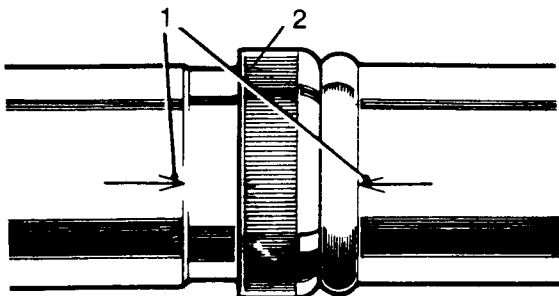

Fig H4.6
- (3) **Both shafts:** Refer to Fig H4.6. Check that the alignment marks (1) on the splined sleeve and the splined shaft are clearly visible. If necessary inscribe new alignment marks.
- (4) Unscrew the dust cap (2).
- (5) Withdraw the splined sleeve.
- (6) Clean the splined shaft and the splined sleeve in a grease solvent.
- (7) Temporarily locate the splined shaft into the sleeve, maintaining the marked alignment.